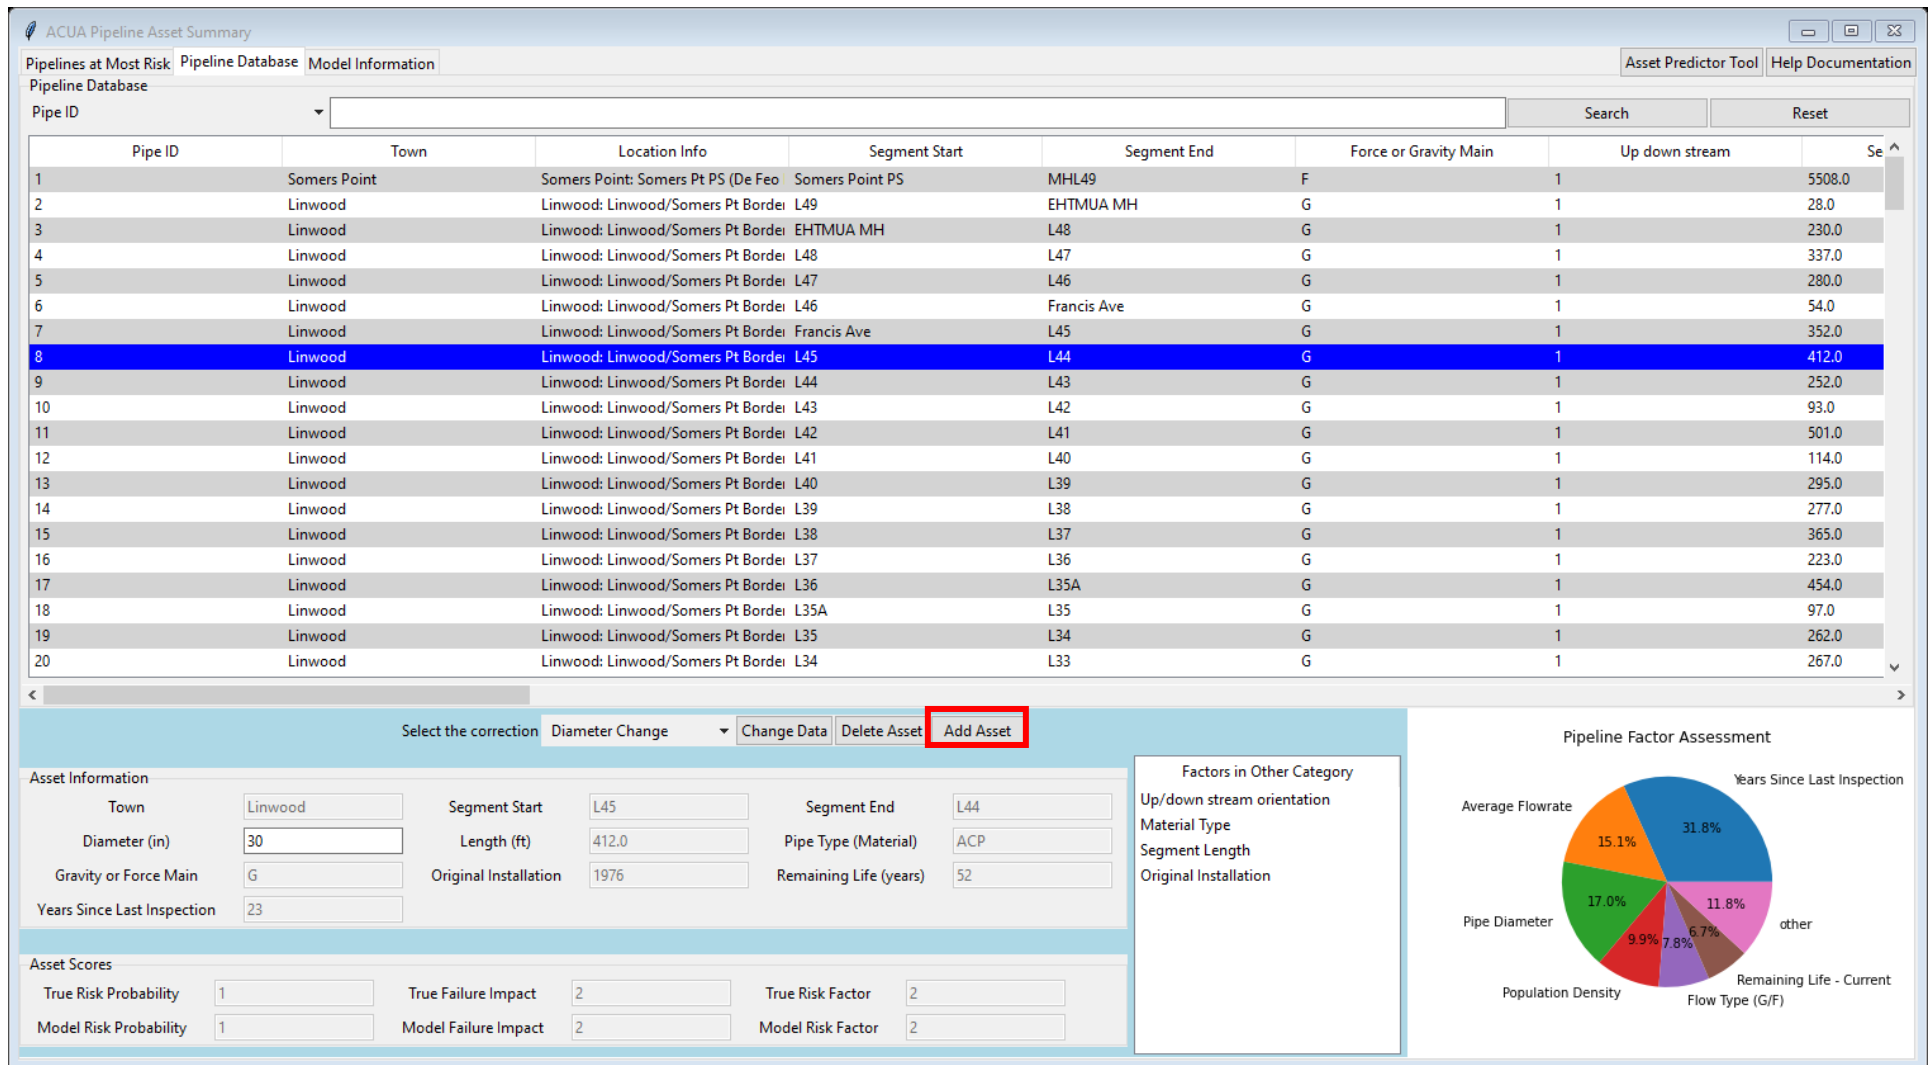

Figure 10: Adding Asset function
- a. This button is outlined in red in Figure 10